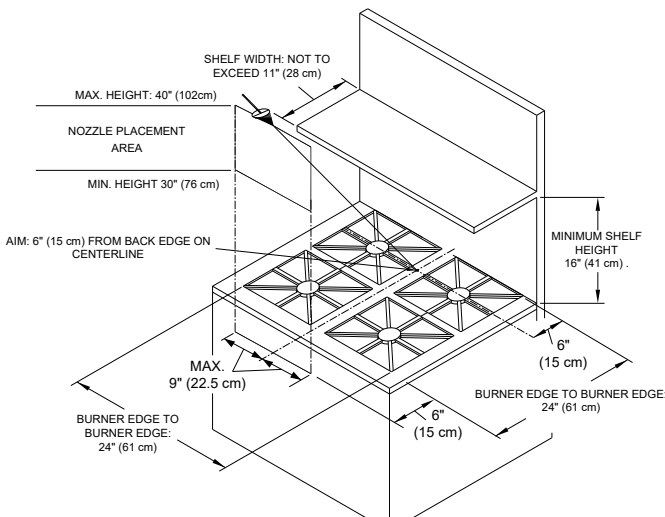

Figure 3-14a.
The **Model N-2LP** nozzle is a two (2) flow point nozzle that can protect a range cooking area of 24" (61 cm) wide by 24" (61 cm) deep. The nozzle must be located 30" (76 cm) to 40" (102 cm) above the cooking surface 6" (15 cm) from the front edge of the burners and within 9" (22.5 cm) of the centerline of the appliance. The nozzle must be aimed 6" (15 cm) from the back edge of the burner on the centerline of the appliance. The back shelf shall not be less than 16" (41 cm) from the top of the appliance and extend more than 11" (28 cm) over the back edge of the burners. See **Figure 3-14a**.